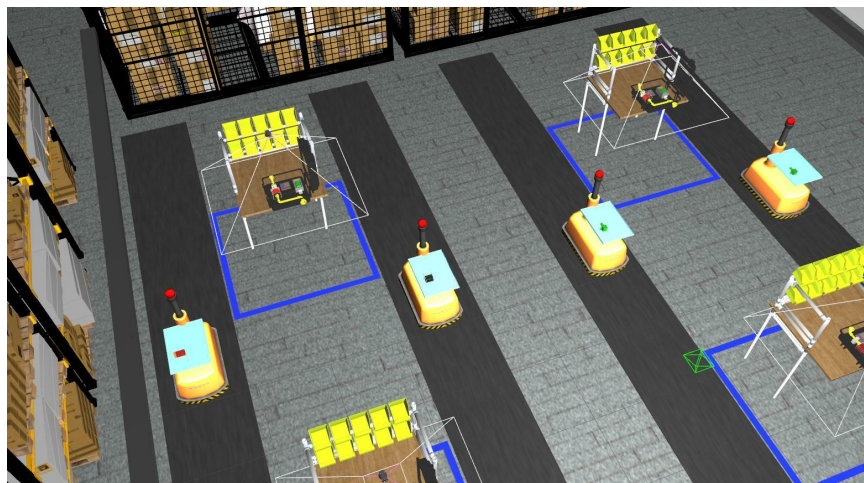

Figure 3: agv1 and agv2 at as2. agv3 and agv4 at as4.
10. Edit `[rwa2_trial.yaml]` one more time so when the simulation starts agv1 and agv2 are at as2, and agv3 and agv4 are at as4 (see Figure 3). Repeat the same previous process: Place a camera above each AGV, ensure each camera sees the part on the AGV, record the pose of the camera in `[group1_config.yaml]`, and finally ✖ `Ctrl + c`.